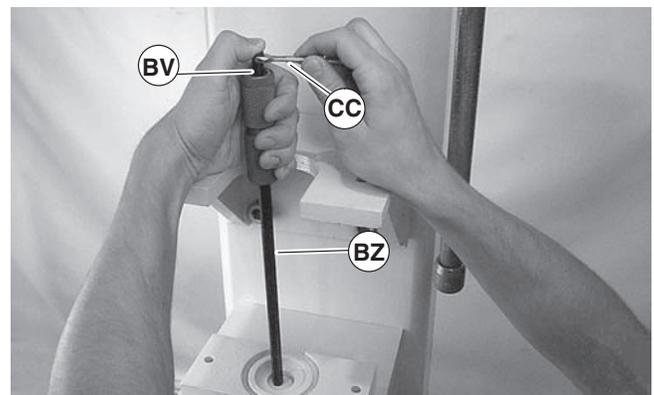

Figure 59
2. While holding bearing removal tool (BV) in position, insert extension tool (BZ)(25-08, part of tool kit 4500) into opposite end of pulley (BW). Rotate bearing removal tool (BV) to engage hex tip of extension tool (BZ) into screw (CA).
3. While maintaining extension tool (Figure 59, item BZ) position, use a wrench (CC) to rotate bearing removal tool (BV) to expand flare.